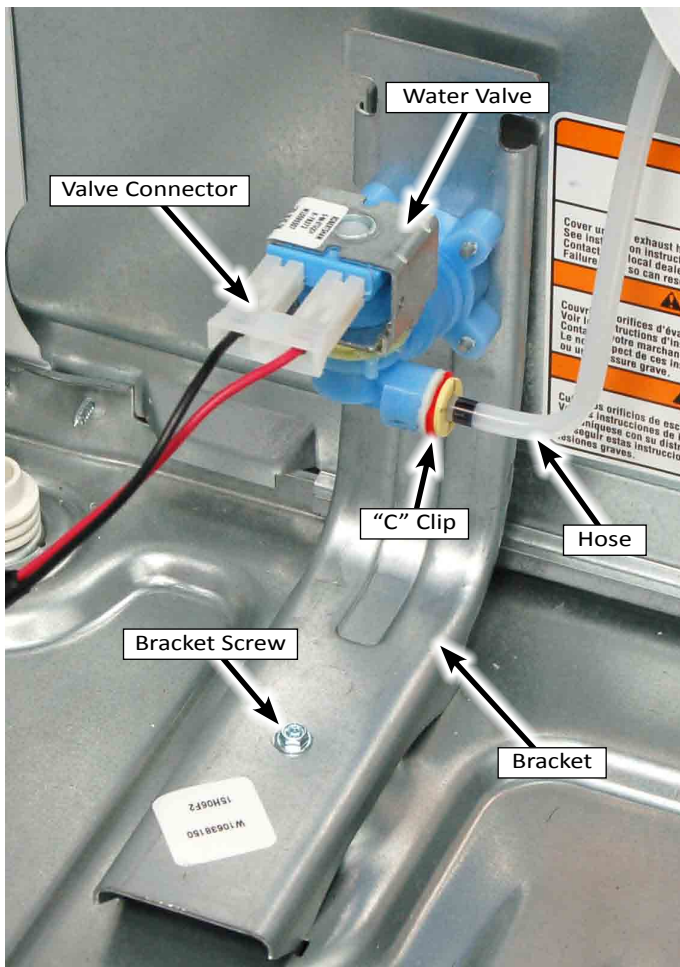

Figure 1 - Water valve view from inside dryer.
3. Disconnect the water valve harness connector (see Figures 1 & 2).
4. Remove the "Red C-Clip" from the water valve tube fitting and remove water tube from valve assembly (see Figures 1 & 2).
5. Remove the 1/4" hex-head screw securing the water valve bracket to the dryer base. Remove water valve and bracket assembly from dryer. See Figures 1 & 2.